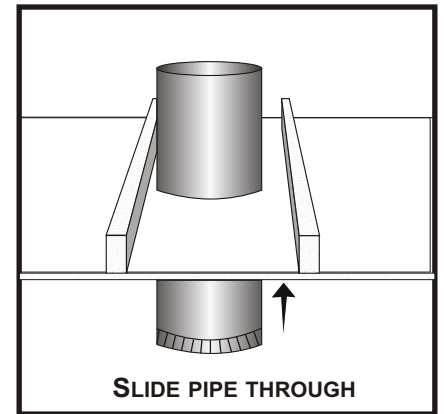

Figure 10
8. Now you are ready to install the pipe. Slide the pipe through the hole in the ceiling (**Fig 10**) crimped end down), pushing it up through the ceiling and through the flashing, at least 1/4 of an inch